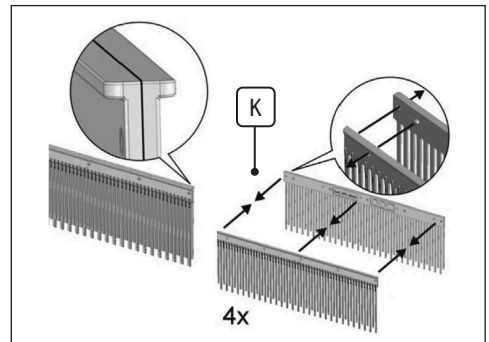

Fig. 4
- The brushes can be removed for cleaning – refit as shown in Fig 4 and Fig.5.